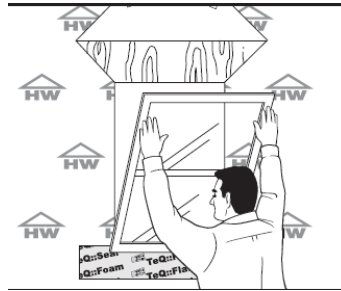

Figure 6
3.3.1 Install window into opening within 10 minutes by placing window sill on rough opening sill shims and tilt in header (Figure 6). Press firmly into place.